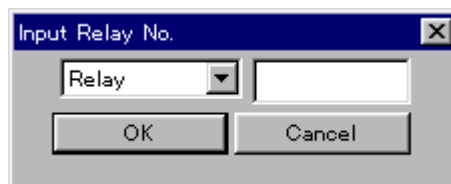

Figure 20-3 Find Output Relays Dialog Box
2. When the dialog box shown in Figure 20-3 appears, input the relay number to be searched for and click the [OK] button.